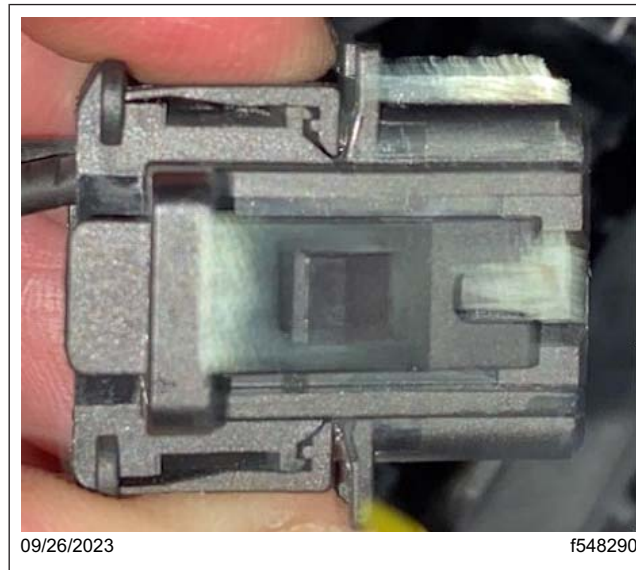

Fig. 22, SSAM X10 Connector Locked
- 9.6 Lock the X10 connector. See Fig. 22.